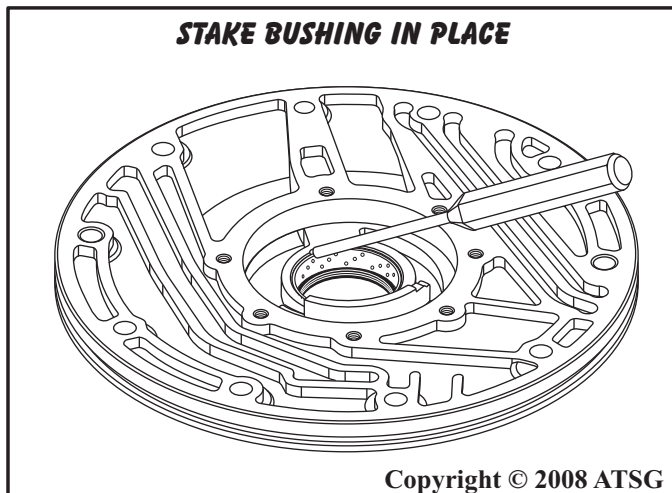

Figure 78
5. Stake the bushing in place using a small punch, as shown in Figure 78.